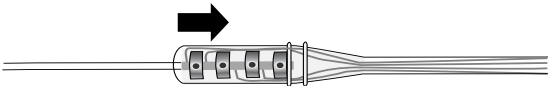

Figure 20. Insert lead fully into setscrew connector junction.
3. Insert the exposed lead end fully into the socket of the setscrew connector junction (Figure 20).